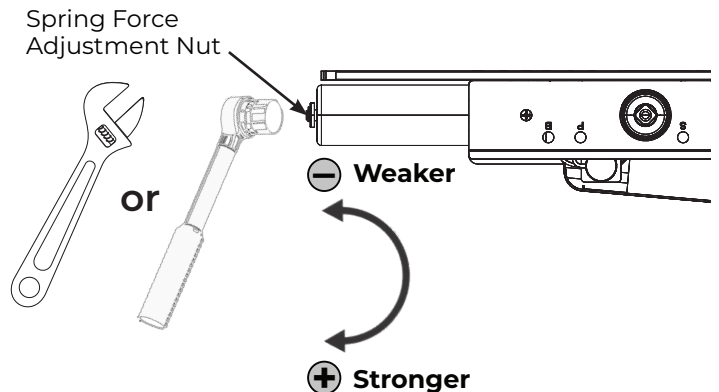

**Figure 26** View of Left Hand operator from ceiling looking down
1. Closing Speed Controls (Figure 26)
2. Opening Cycle (Figure 26)